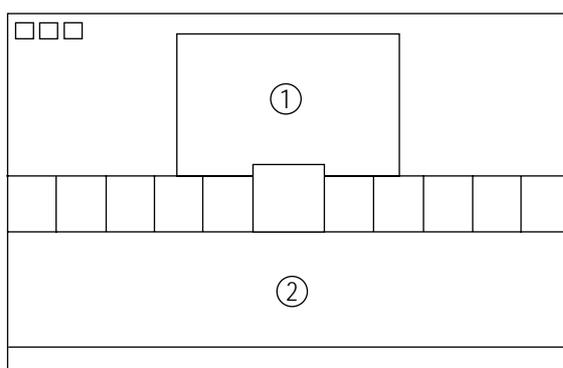

Fig. 4-4
1. Set SBT to  $1.3 \pm 0.2$  fL in the Factory Service Mode with using CA100. See Fig. 4-4 ②.
1. Set SCT to 55 FL (20" . 21"), 65 FL(14" .16") in the Factory Service Mode with using CA100. See Fig. 4-4 ①.